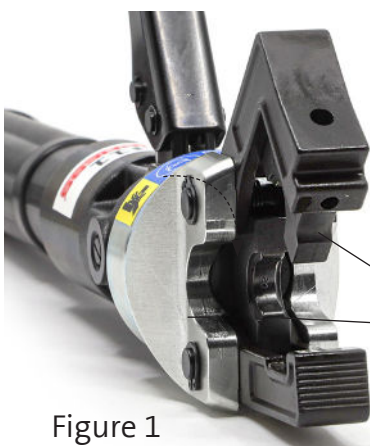
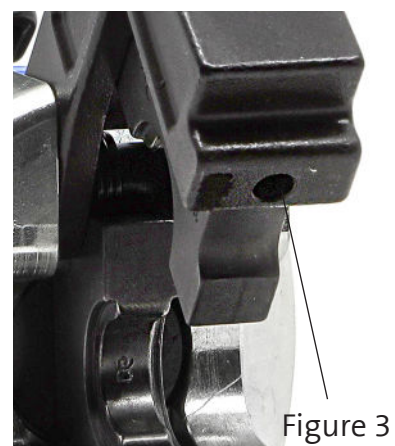

Figure 1
Figure 3
- 1. Open the die holder, turn the set screw, Figure 3, to the right position for the type of die and fit the crimping dies to the crimp head. Close the jaw clasp, see Figure 1. Ensure you have selected the correct combination of dies.